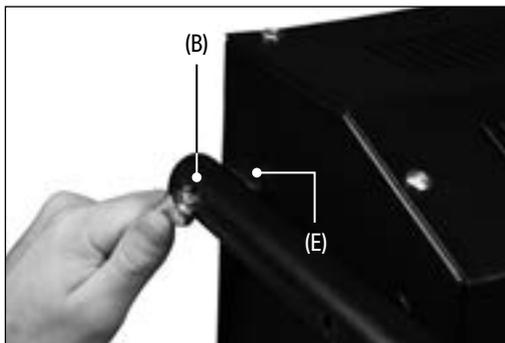

Fig. 2
2. Attach the handle to the heater unit (Fig.2).
- a. Position the handle (B) so that it extends around the back of the heater and the holes align.
- b. Position a handle mount (E) between the handle and the heater at each hole.
- c. Screw the four M6 x 45mm hex bolts (G) through the handle and handle mounts and into the heater.